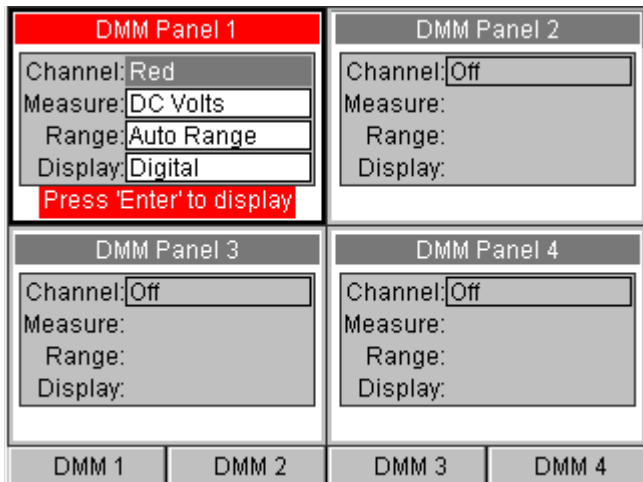
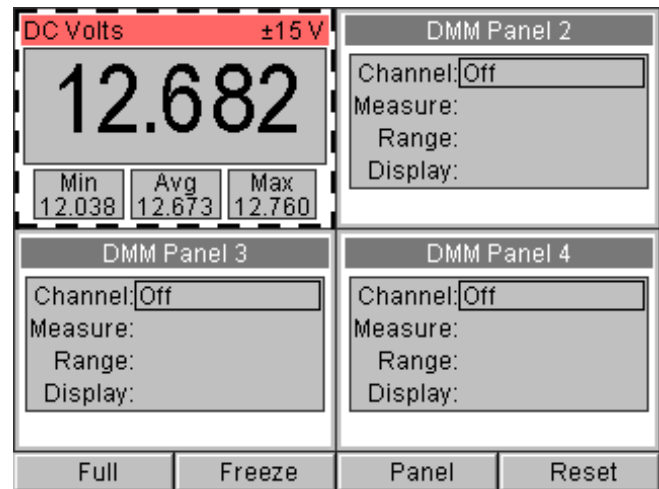

Figure 6.4: DMM Setup Screen
Figure 6.6: DMM Screen - Panel 1 Displayed
- One panel is always “selected.” The selected panel either has a solid border around it and contains edit “fields” (Figure 6.4), or it has a “moving” dashes border and contains a meter reading (Figure 6.6 on page 37).
- 5 When finished setting up a panel, press the **ENTER** key to display the meter reading. The solid black border around the panel changes to moving dashes, indicating you can now use the Direction keys to select another panel. See Figure 6.6.